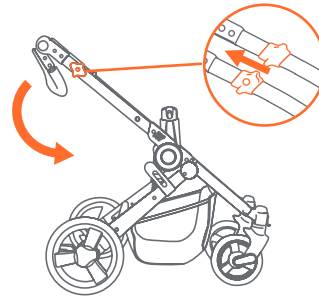
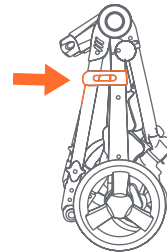

Fig. 15a
Fig. 15b
- Fold the stroller by pulling both release triggers (Fig. 15a) and push handle toward the floor. Make sure the front wheels lie flat, then secure the stroller in the folded position by locking the fold latch, located on the right side of the stroller, over the rivet (Fig. 15b).